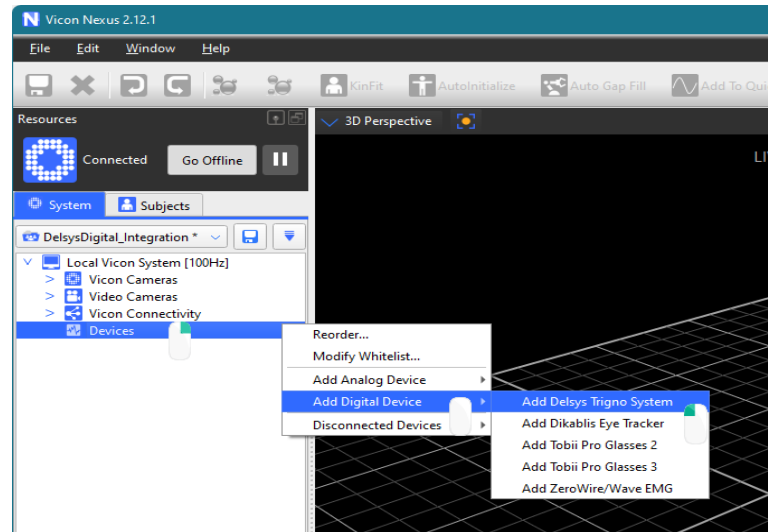

Figure 6: Adding a digital device to Vicon Nexus 2.x.
3. Launch Vicon Nexus 2.X, right click on Devices in the System Tab, open *Add Digital Device* and then left click on *Add Delsys Trigno System* (Figure 6).